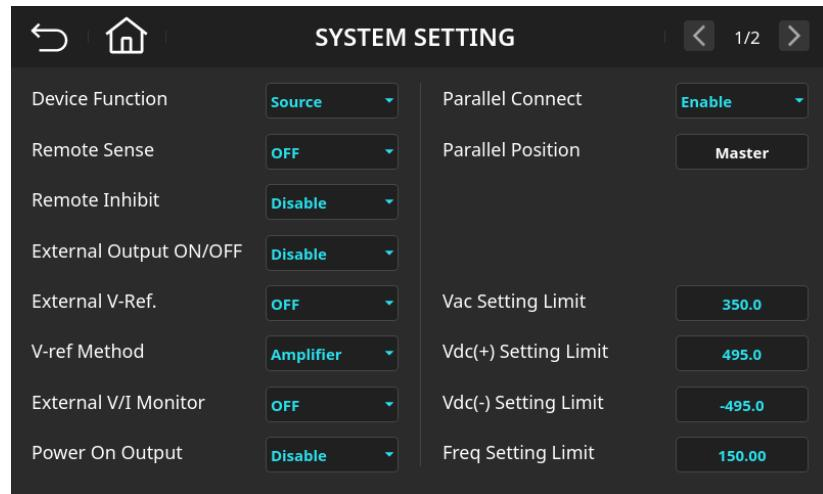

Figure 6-10 System Function Settings Page (Parallel Connect = Enable)
3. Select "Enable", then, as shown in Figure 6-10, tap the Home button  to return to the main screen.